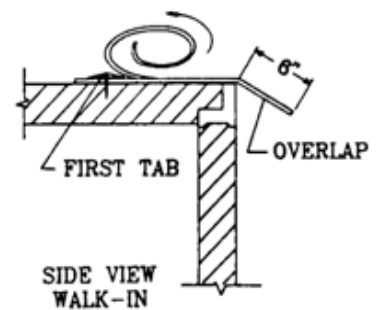
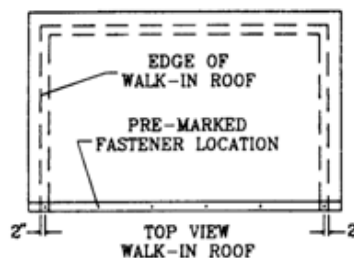
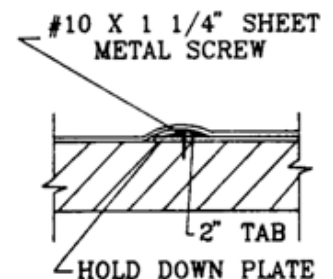

Figure 19 - Vinyl Weathercap Anchoring
Figure 20 - Fastener Locations
Figure 21 - Additional Vinyl Weathercap Anchoring
4. Once the vinyl weathercap is correctly positioned on top of the walk-in, anchoring may begin. Anchor the short side of the cap first and then roll the vinyl weathercap. Roll the vinyl weathercap back to the first anchoring tab nearest to the edge of the walk-in (Refer to Figure 19). Using #10 x 1-1/2" long sheet metal screws and the hold down plates, anchor the first tab down to the roof. The hold down plate and fastener locations are pre-marked on the tab at the factory (Refer to Figure 20). Start in the center of the tab and work toward the ends, making certain the tab is square with the roof and 6" of roof cap is overhanging the edges of the roof. The tab should be flat. **Do not allow excessive wrinkles between hold down plates as the cap will not lay flat. The tabs should run the shortest length of the walk-in.**
5. Once the first tab is anchored to the walk-in roof, roll the vinyl weathercap over to the next tab (Refer to Figure 21) and repeat step 4 (Refer to Figure 19). **Do not allow the vinyl roof to wrinkle or have excessive material between tabs.**